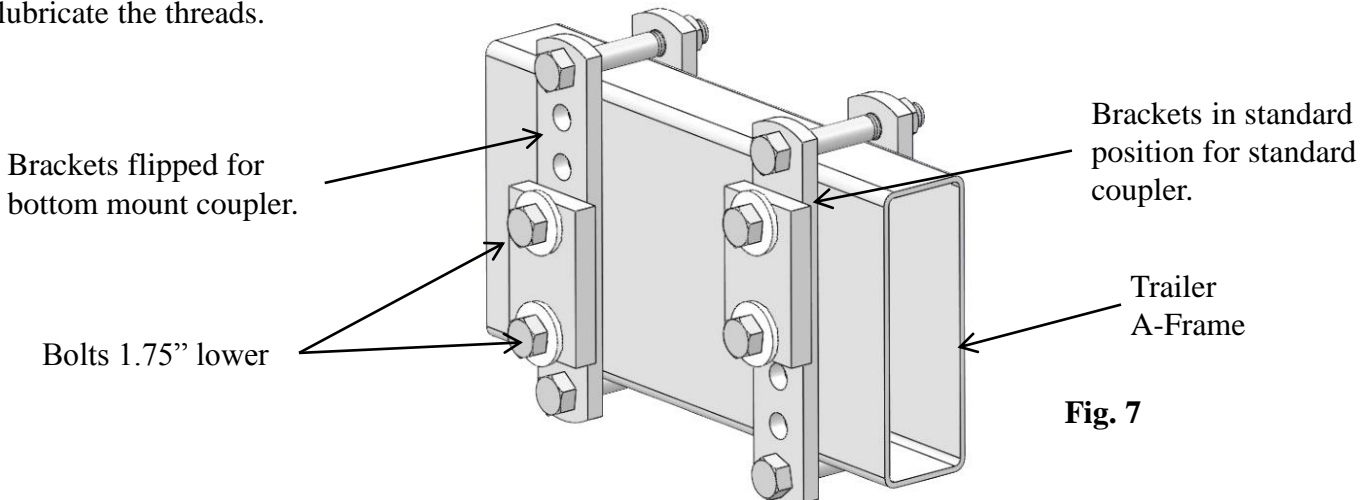

Fig. 7
- If you have a 6" tall frame with a bottom mounted coupler (inverted coupler) it may be necessary to install brackets (V) and (W) upside down in order to get the L-bracket (L) mounted low enough. See fig. 7. This will lower the L-bracket 1.75" Otherwise their may be too much spring bar pressure.
- Torque both 3/4" nuts(E) to 300 ft.*lbs. when the desired angle is achieved. If a large enough torque wrench is not available, torque nuts to 150 ft.*lbs. then tighten the nuts an additional 1/4 turn. Do not lubricate the threads.